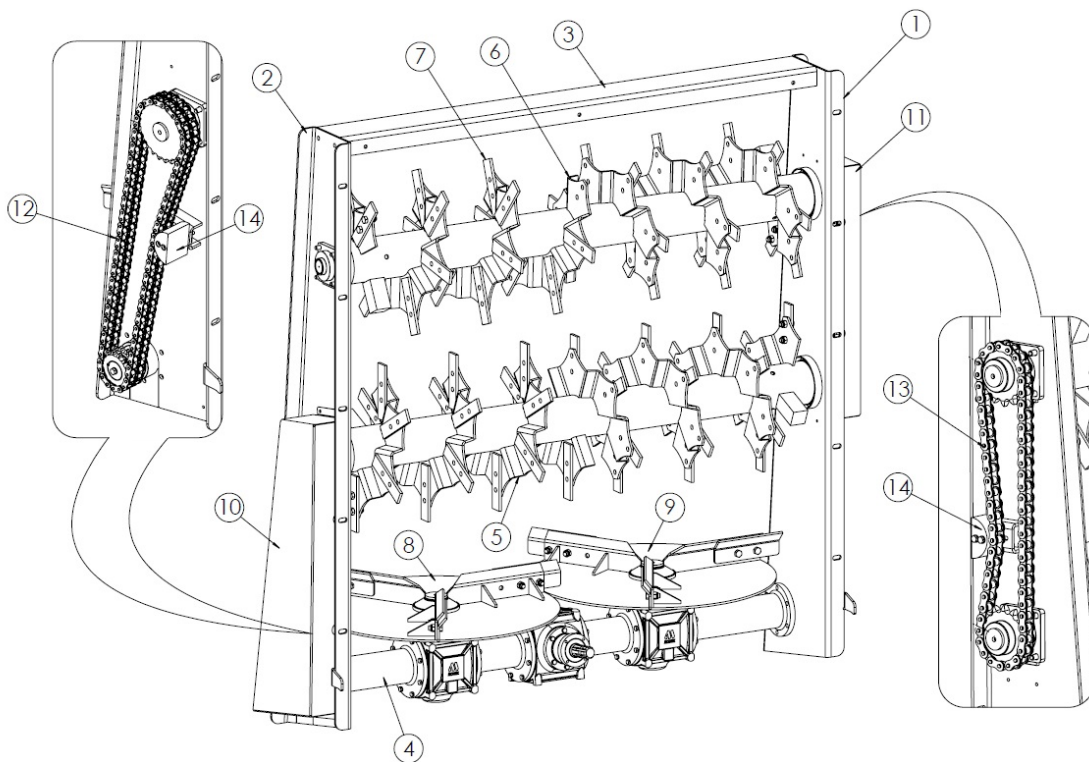

Figure 7 The 4-auger vertical beater unit
The 4-auger horizontal disc beater unit (Fig. 7) consists of a left beam (1), a right beam (2) and an upper beam (3) to form the beater unit frame. In its lower part there is a gearbox (4), on which the spreading discs (5) and (6) are mounted. The main work tools are replaceable blades (7) fastened to the horizontal augers (8) and (9). The augers shred the feed material, which is guided through the beater unit shield onto the spreader discs. The rotating discs eject the shredded material backwards and sideways. The drive is supplied from the gearbox (4) to the horizontal augers (5) and (6) by the transmission chains under the shields (10) and (11). The auger is powered from the gearbox by the lower 16B2 chain (12). The top auger is powered from the bottom auger by the 20B1 chain (13). The chain tension is controlled by tensioners (14).